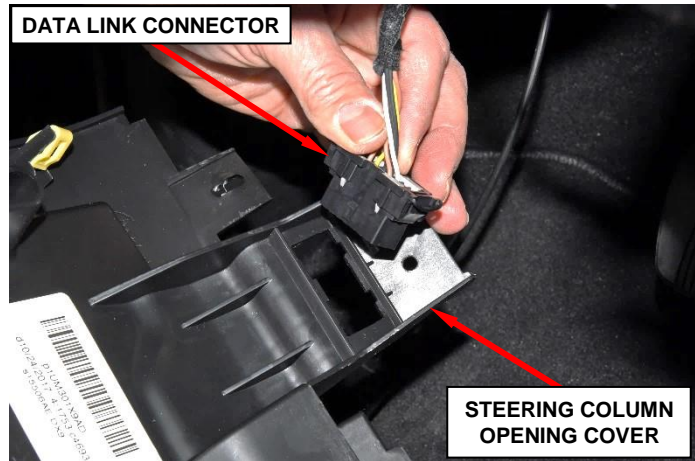

Figure 4 – Data Link Connector
6. Remove the data link connector from the steering column opening cover by pressing in the tabs and pushing the connector through the opening on the back side of the cover (Figure 4).
42. Install the data link connector to the steering column opening cover by pushing the connector through the opening on the back side of the cover and fully engaging the lock tabs of the connector (Figure 4).